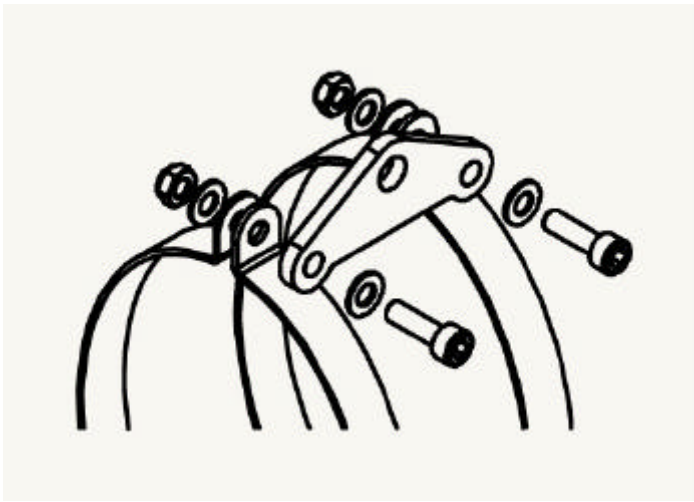
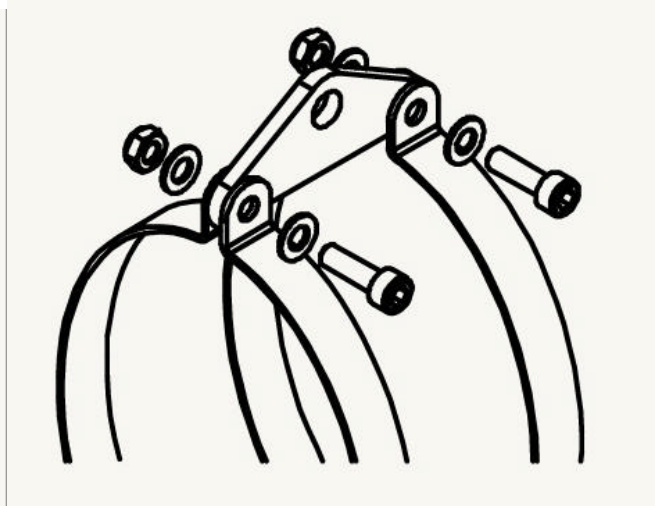

Fig 1: For polished silencer
Fig. 2: For Carbon silencer
8. Insert the TiForce can to the tail pipe and attach springs. Carefully align the two silencer bands so that they are parallel to each other. Make sure that the rubber pads fully cover the silencer bands. Tighten the 6mm hardware (2 6x25mm bolt, 2 M6 nut, 4 M6washer). (See Fig. 1 for Polished silencer, See figure 2 for Carbon silencer.) Repeat the same procedure for Left TiForce can. Use caution when tightening the 6mm hardware and the two bands so as not to crush or distort the sleeve of the can.